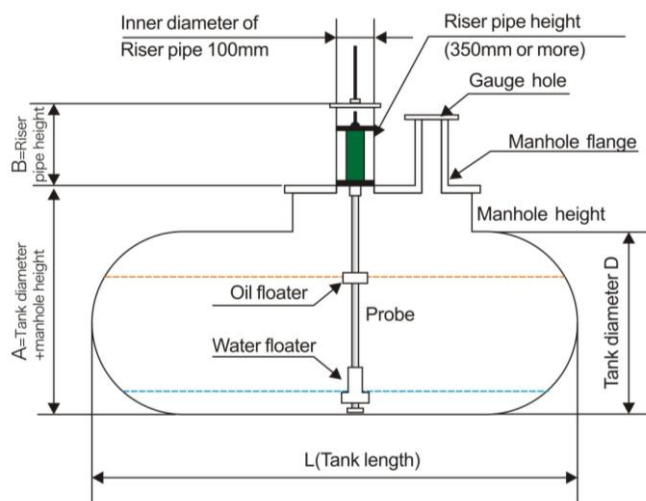

Fig. 6
- Put probe into oil tank carefully by two hands, then hold fixed plate and adjust probe to be vertical, installation position please see Fig. 6.